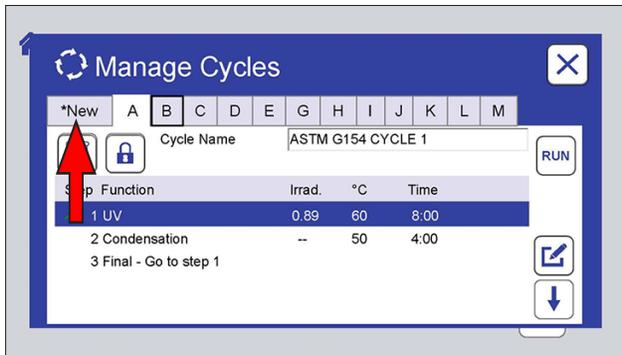
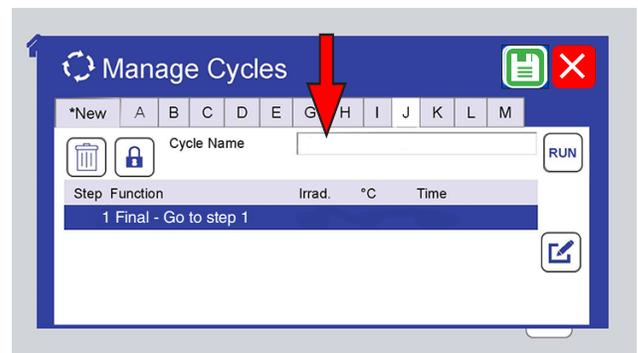

Figure 11.7.7a: To create a new cycle, touch the *New tab.
Figure 11.7.7d: An empty cycle is created with only a final step. Enter a name for the new cycle.
- Create a new cycle (Figure 11.7.7a through Figure 11.7.7d).